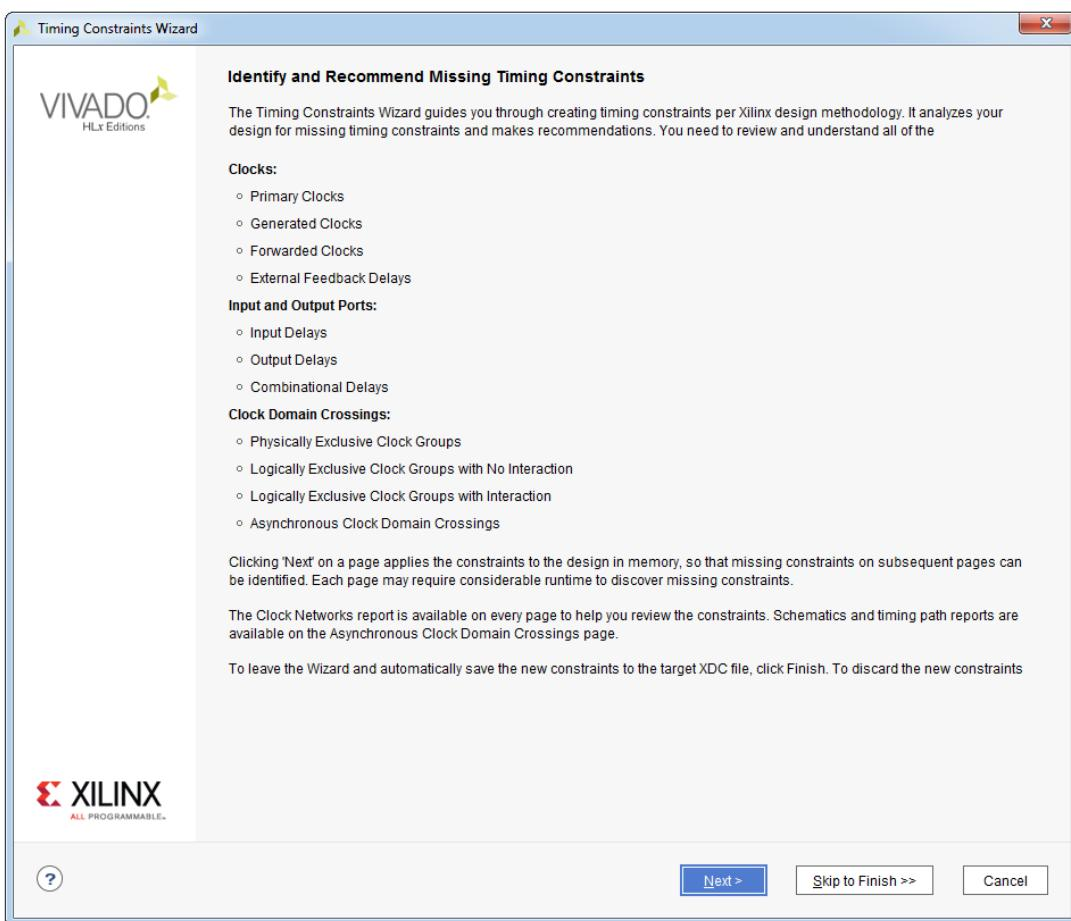

Figure 10.11: Identify and Recommend Missing Timing Constraints dialog box
4. In the Flow Navigator, click ones more **Constraints Wizard** command to open the introduction page. This page describes the types of constraints that the wizard will create: Clocks, Input and Output Ports, and Clock Domain Crossings, see Figure 10.11. After reading the page, click **Next** to continue.